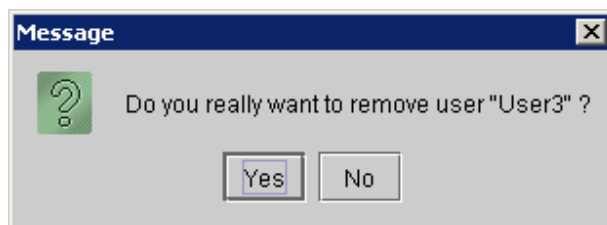

Figure 7 : Message for removing a user
- ♦ Click on the button **Remove**, the following window appears on the screen (Figure 7):